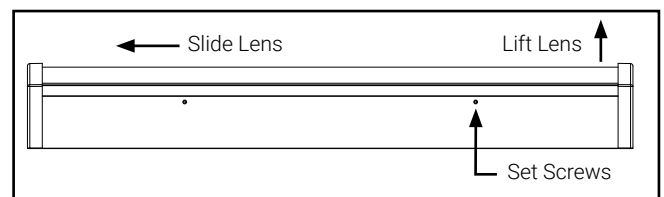

Figure 1.
2. Remove lens by loosening set screws (do not remove completely) and slide lens towards one end to allow lens to clear end cap on opposite end for removal. Set lens aside for now (Figure 1).